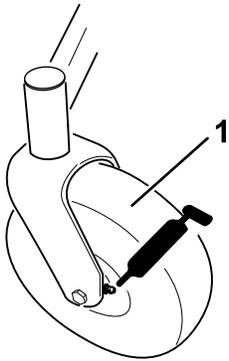

Figure 29
3. Clean the grease fittings (Figure 29) with a rag.
4. Connect a grease gun to each fitting (Figure 29).